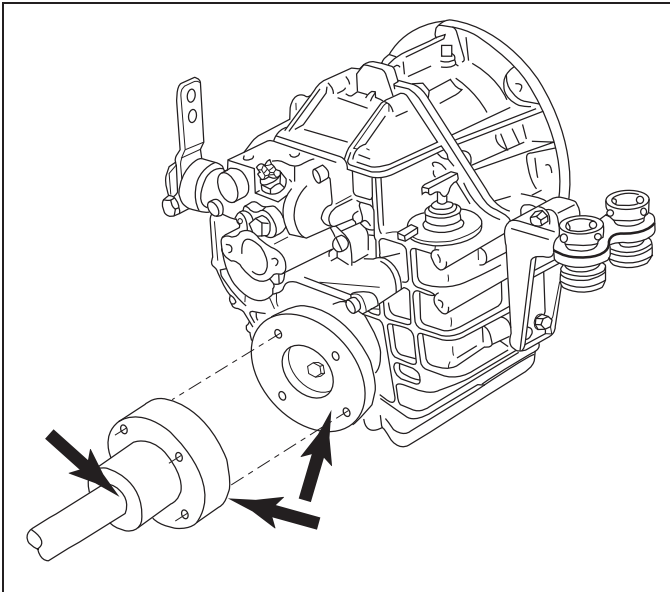

Figure 11-26 Shaft Mating Surface Check - 8 Degree Down Angle
1. With the engine at normal operating temperature, remove the dipstick and install a crankcase oil pump onto the dipstick tube (Figure 11-26). Insert the discharge hose into a suitable container. Pump the oil from the engine until the crankcase is empty. Remove the oil pump from the dipstick tube.